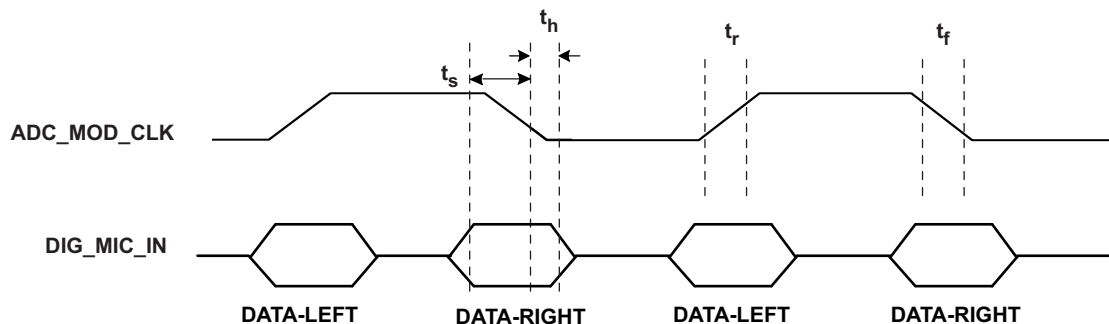

Figure 5. PDM Input Timing
8.16 Digital Microphone PDM Timing (see Figure 5)